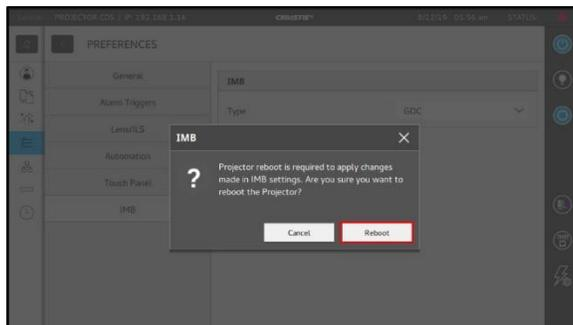

Figure 36: Reboot Projector
13. A pop-up message will be displayed (as shown in **Figure 36**). To save the IMB settings, reboot the Projector by clicking on the **Reboot** button.